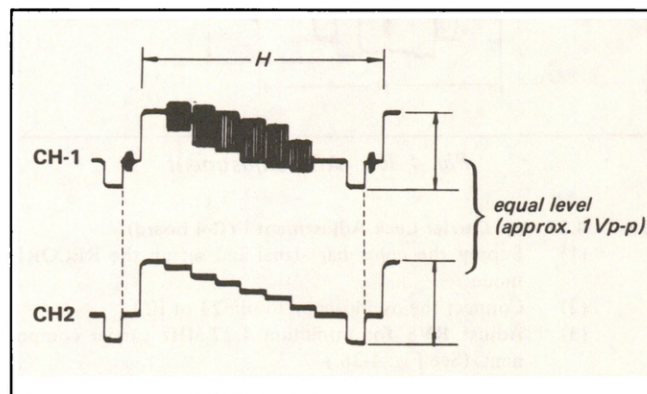

Fig. 4-33. Color video level adjustment
- (4) Connect the oscilloscope CH-1 probe to TP3 and the CH-2 probe to pin 22 of IC1.
- (5) Adjust RV3 so that the CH-1 and the CH-2 waveform levels become equal. (See Fig. 4-33.)